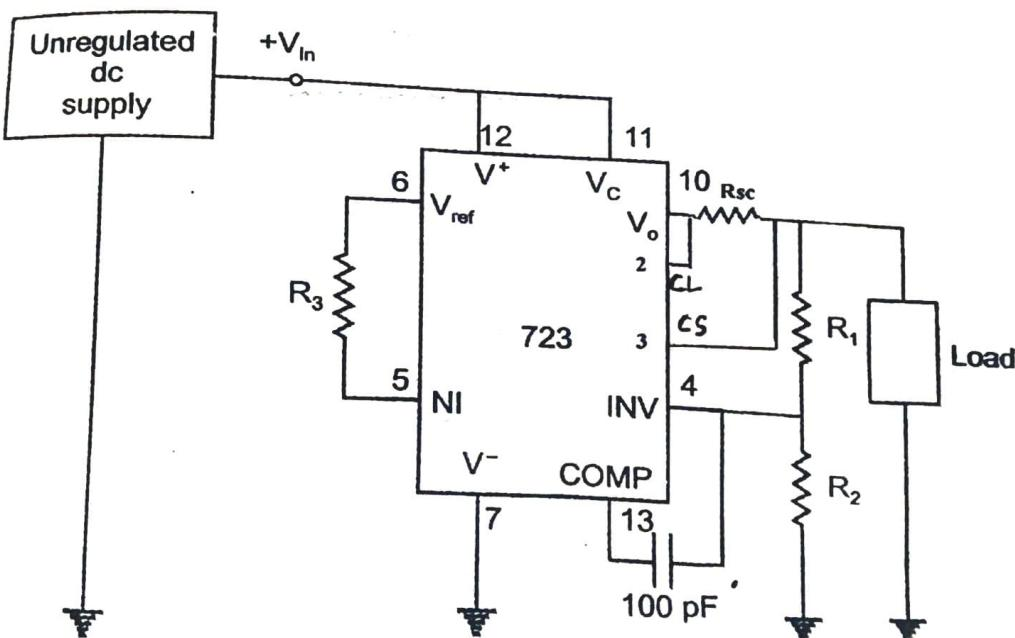

Fig 16. Circuit of high voltage regulator with current limit protection
**Ex4** Repeat Ex2 for the circuit of Fig 16.